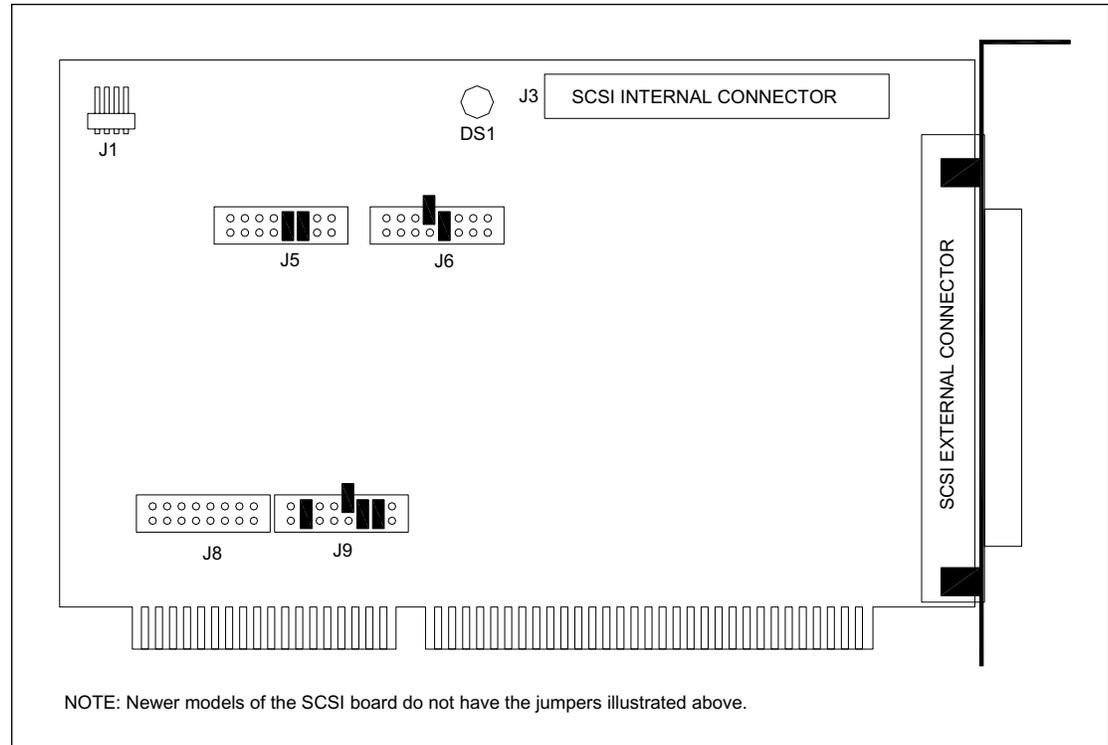

Figure 9-32. SCSI Interface Board Jumper Configuration.
1. Check the new SCSI interface and make sure that it is configured as shown in figure 9-32.